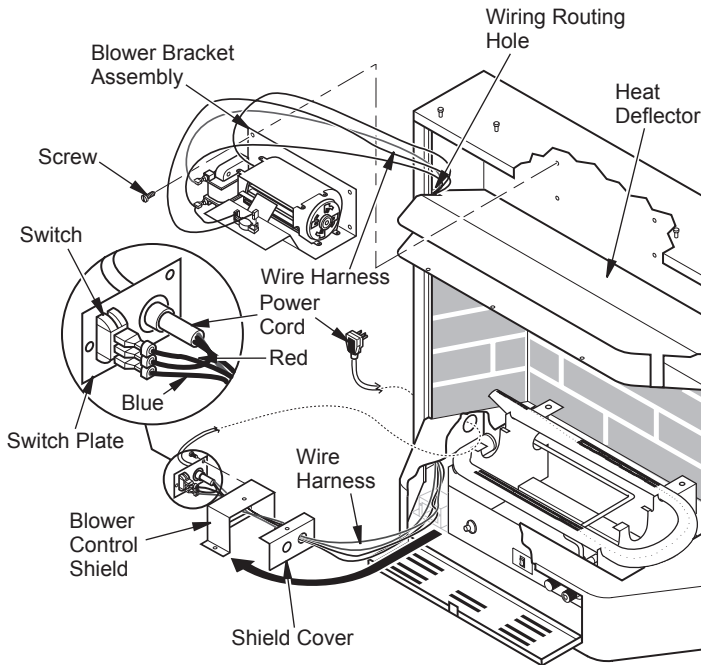

Figure 15 - Installing Blower Bracket Assembly
4. Note the wire locations on back of AUTO/OFF/ON switch. Carefully remove red wire from the AUTO terminal and blue wire from the ON terminal. Black wire can remain on the middle or OFF terminal (see Figure 15, page 13).
6. In top of the heater cabinet, locate the four mounting holes on the outer casing. Align these four holes with those on the blower bracket assembly. Attach blower bracket assembly to the outer casing with 4 - #10 screws provided (see Figure 15, page 13).
7. Route the wire harness through the hole to the left side of heat deflector. Pull wire harness through lower opening to the left of the blower control shield. (see Figure 15, page 13).
8. Insert the 4 wire harness into one of the round holes in the rear of the blower control shield and through the rectangular hole in the front of shield (see Figure 15).
ure 16). Route power cord out of the cabinet by inserting it through the bushing on the outer casing (see Figure 15). Plug fan kit into 120-Volt grounded power supply and test operation. **Note:** When switch is in the AUTO position, the fan will start after the heater has run for a few moments. The fan will continue to run for several moments after the heater has been turned off. When switch is in the ON position, the fan will run until turned off. Reinstall hood assembly and close lower louver door.